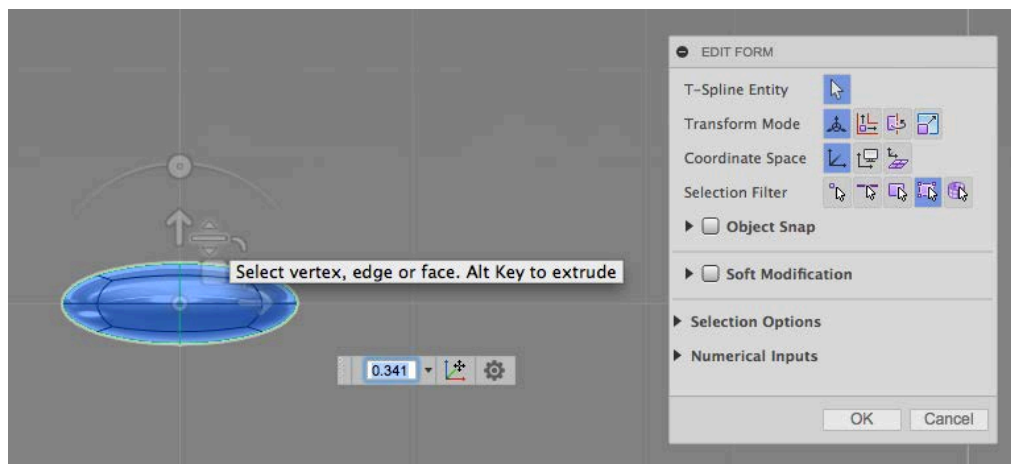

Fig. W01
- b. Select body and use vertical scale handle to flatten shape (Fig. W01).